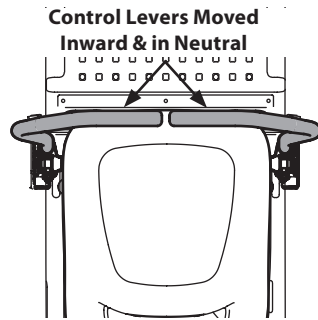

Figure 21
2. Move the RH and LH lapbar drive control levers inward to the neutral position (Figure 21) and disengage the parking brake.